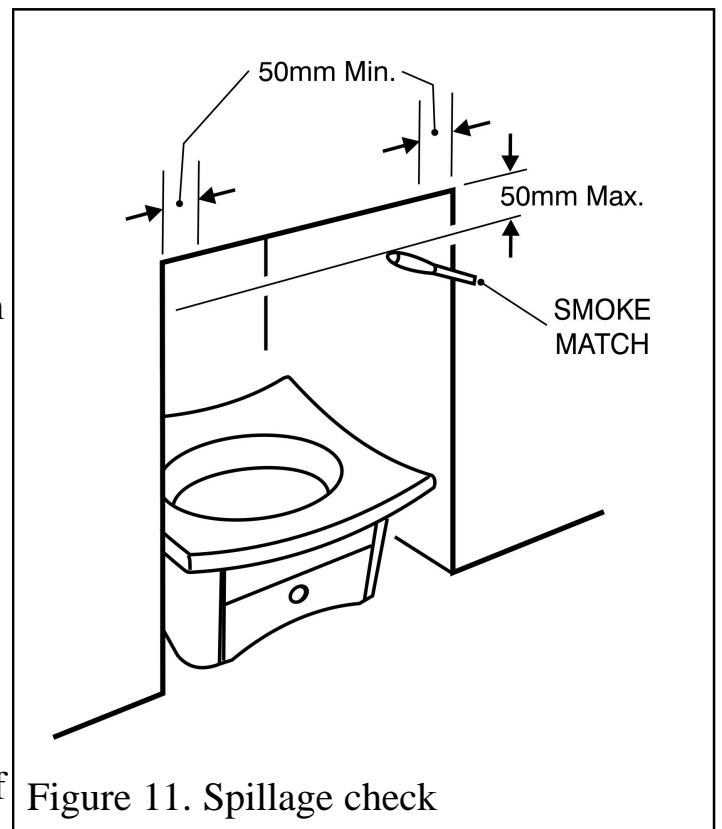

Figure 11. Spillage check
- A spillage check must be made before leaving the installed appliance with the customer. Make this with all the ceramic fuel effect pieces and firefront cover in position (See figure 11)